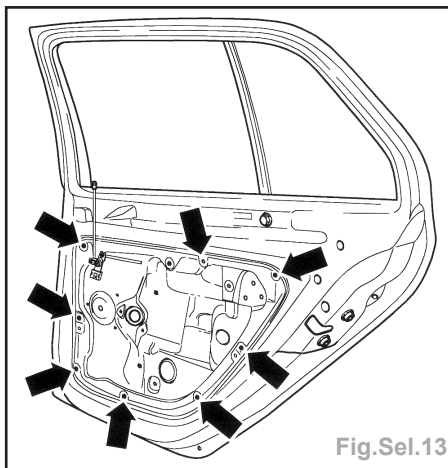

Fig.Sel.13
- retirer les vis (flèches) (Fig.Sel.13),